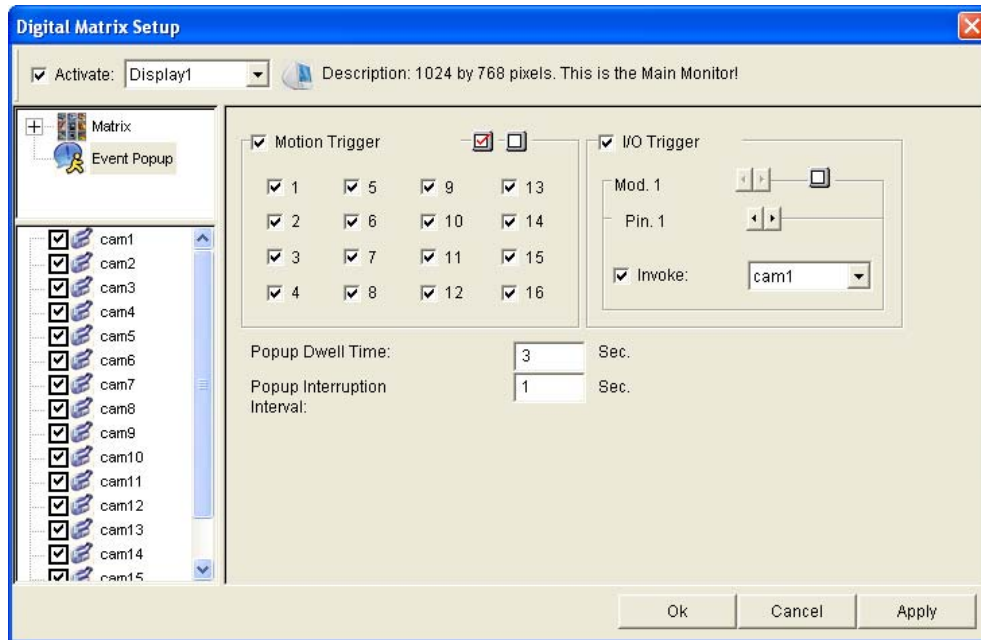

Figure 11-89
2. To configure pop-up alert, in the upper left column, click **Event Popup**. Figure 11-89 appears.